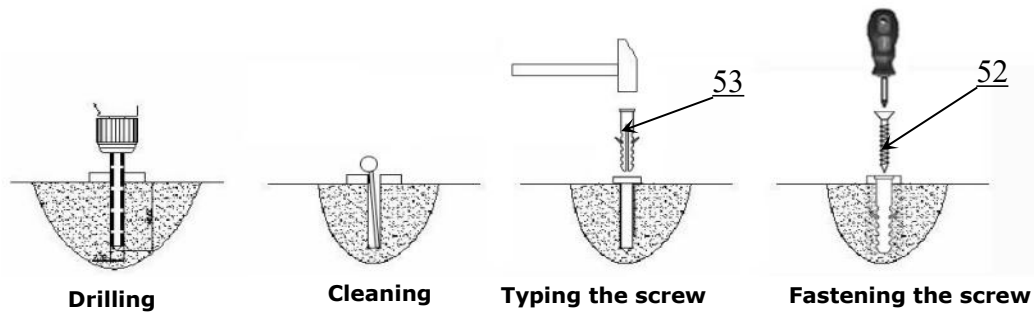

Fig. 24
2. Install the colloidal screw of oil hose cover (See Fig. 24).